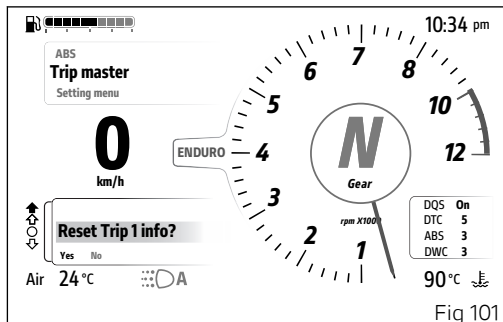

Fig 101
The "Trip 1", "Ø cons.1", "Ø speed 1" and "Trip 1 time" information can be reset by pressing the ENTER button (3) when selected: "Reset Trip 1 info?" and the items "Yes" and "No" (Fig 101) will be displayed.